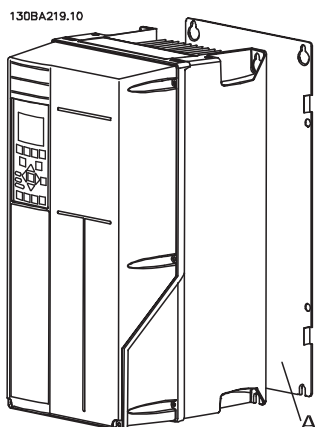
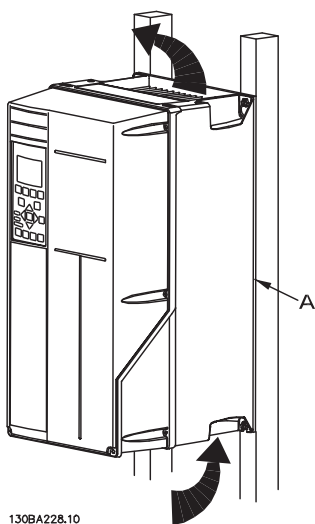

Figure 2.7 Proper Mounting with Backplate
Figure 2.8 Proper Mounting with Railings
- Mount the unit to a solid flat surface or to the optional backplate to provide cooling airflow (see *Figure 2.7* and *Figure 2.8*).